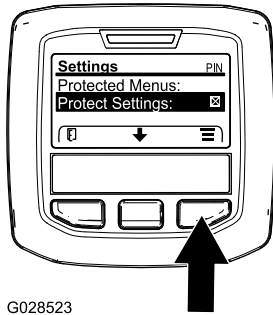

Figure 9
1. From the MAIN MENU, use the center button to scroll down to the SETTINGS MENU and press the right button (Figure 9).